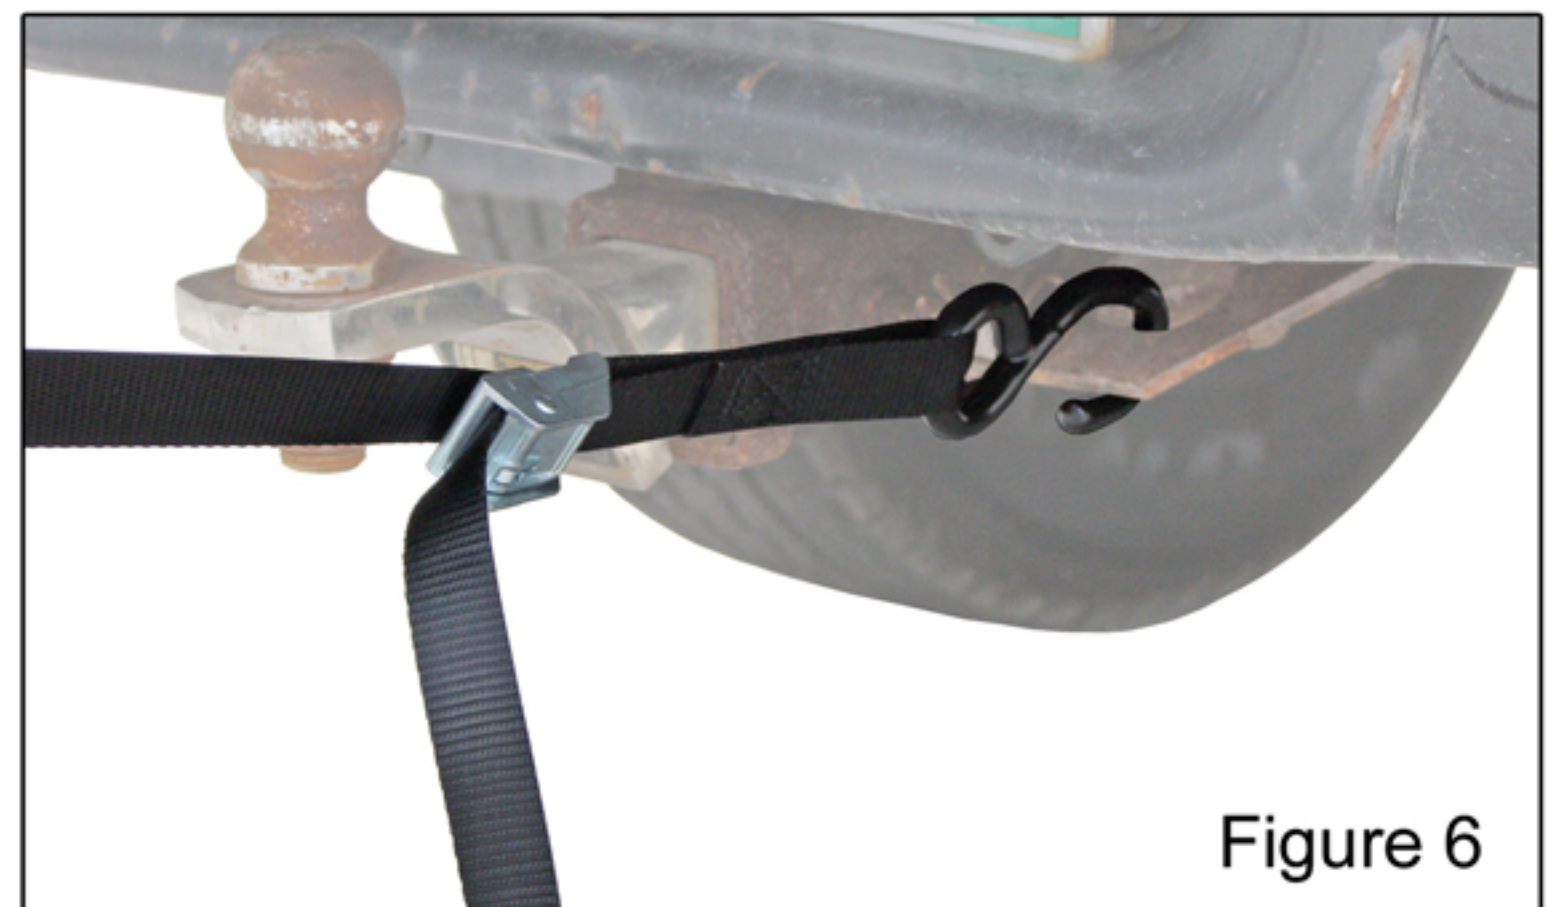

Figure 6
3. Find a secure place to hook the safety strap. Trailer hitch chain loops or bumper supports are recommended. Hook both ends of the strap to the vehicle/trailer (Figure 6).